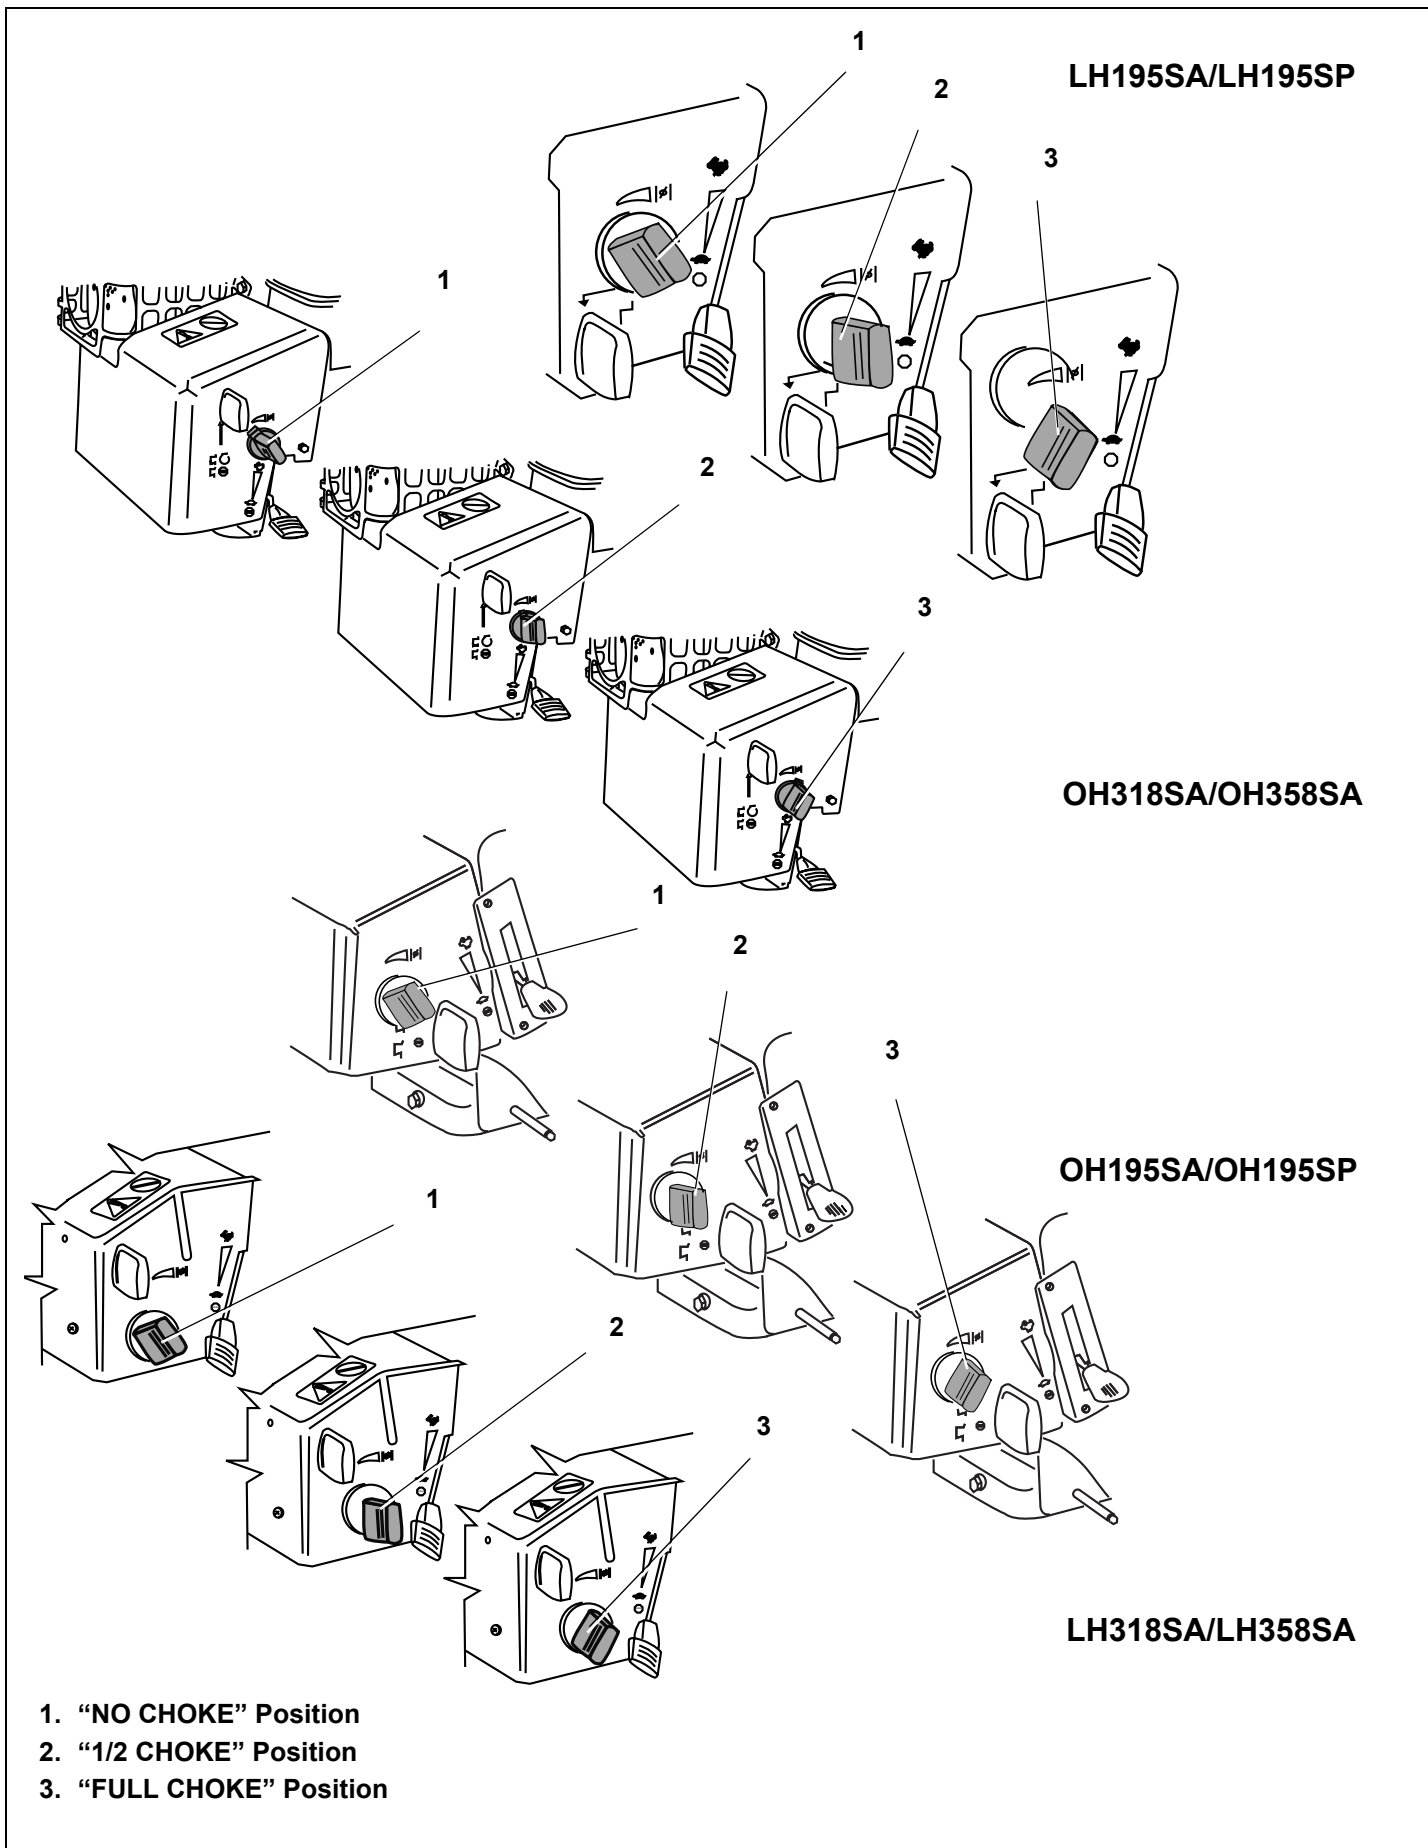

Figure 24. Choke Control Positions
6. Set choke control to "FULL CHOKE" position (see equipment manufacturer's instructions). See Figure 24 on page 12. Afterward, continue reading instructions below.
- b. Momentarily move choke control to "1/2 CHOKE" position until engine runs smoothly. See Figure 24 on page 12. Afterward, continue reading instructions below.
11. If engine fires but does not continue to run, move choke control to "NO CHOKE" position and start engine. See Figure 24 on page 12. Afterward, continue reading instructions.
4. Set choke control to "FULL CHOKE" position (see equipment manufacturer's instructions). See Figure 24 on page 12. Afterward, continue reading instructions below.
If restarting a warm engine after a short shutdown, move engine speed control to "FAST" position and move choke control to "NO CHOKE" position. See Figures 24, 26 and 27 starting on page 12. Afterward, continue reading instructions below.
- a. Momentarily move choke control to "1/2 CHOKE" position until engine runs smoothly. See Figure 24 on page 12. Afterward, continue reading instructions below.
9. If engine fires but does not continue to run, move choke control to "NO CHOKE" position and start engine. See Figure 24 on page 12. Afterward, continue reading instructions below.
3. Move engine choke back and forth several times and leave in the "FULL CHOKE" position. See Figure 24 on page 12. Afterward, continue reading instructions below.